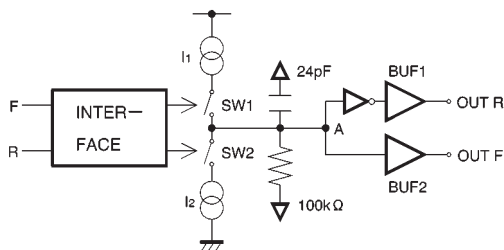
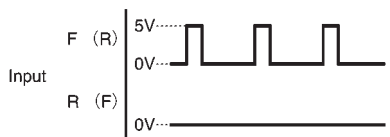

Fig. 2
Fig. 3
(1) Fig. 3 shows the inputs from the digital servo IC for CH1-CH3 drivers (all drivers except the spindle). SW1 is on when the forward input signal (HIGH level, over 2.4V) is present. SW2 is on when the reverse input signal is present (Fig. 2)
This can be increased by inserting a capacitor between point A (pins 3, 11 and 18) and V_{REF} . The constant current (I_{const}) given in the electrical characteristics refers to I_1 and I_2 in Fig. 2.